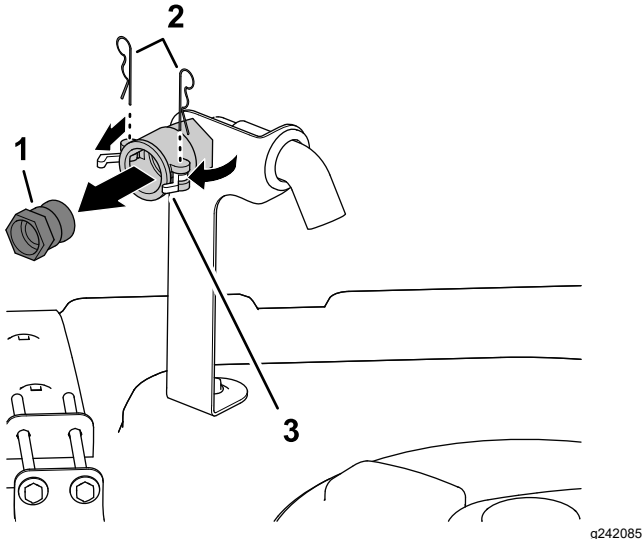

Figure 3
1. At the forward, right side of the tank cover, remove the 2 hairpins that secure the latches for the quick-disconnect coupling for the anti-siphon fill receptacle (Figure 3).
2. Rotate the latches open to unlock the quick-disconnect fitting from the quick-disconnect coupling (Figure 3).
3. Remove the quick-disconnect fitting from the quick-disconnect coupling (Figure 3).
4. Close the latches and install the hair pins into the flanges of the quick-disconnect coupling (Figure 3).